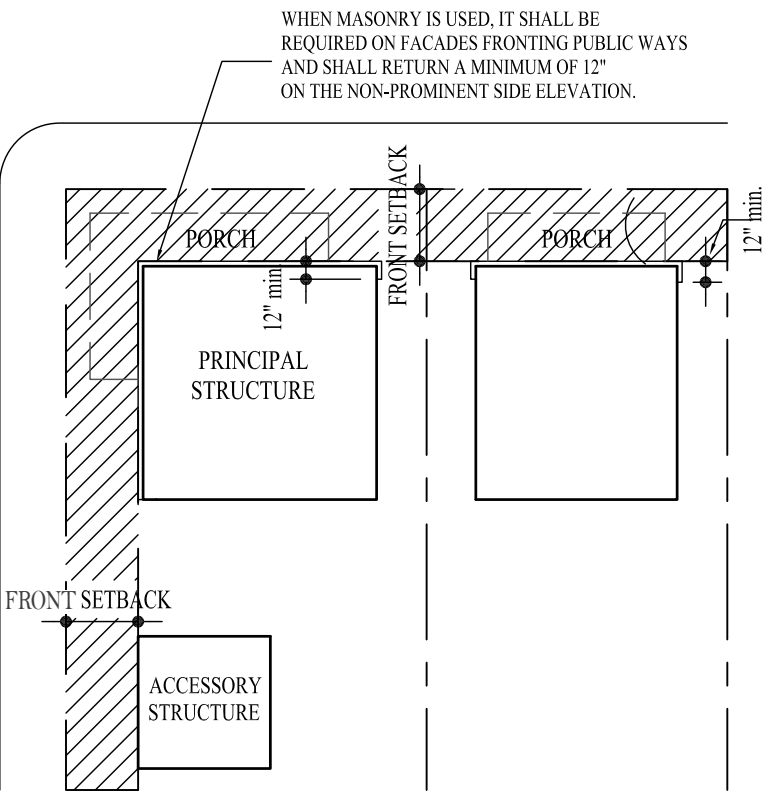

Figure 9
- » On Corner Lots, full porches on the entry façade shall wrap the non-entry façade a minimum of two structural bays, unless otherwise approved by the Village. See Figures 9 and 10.